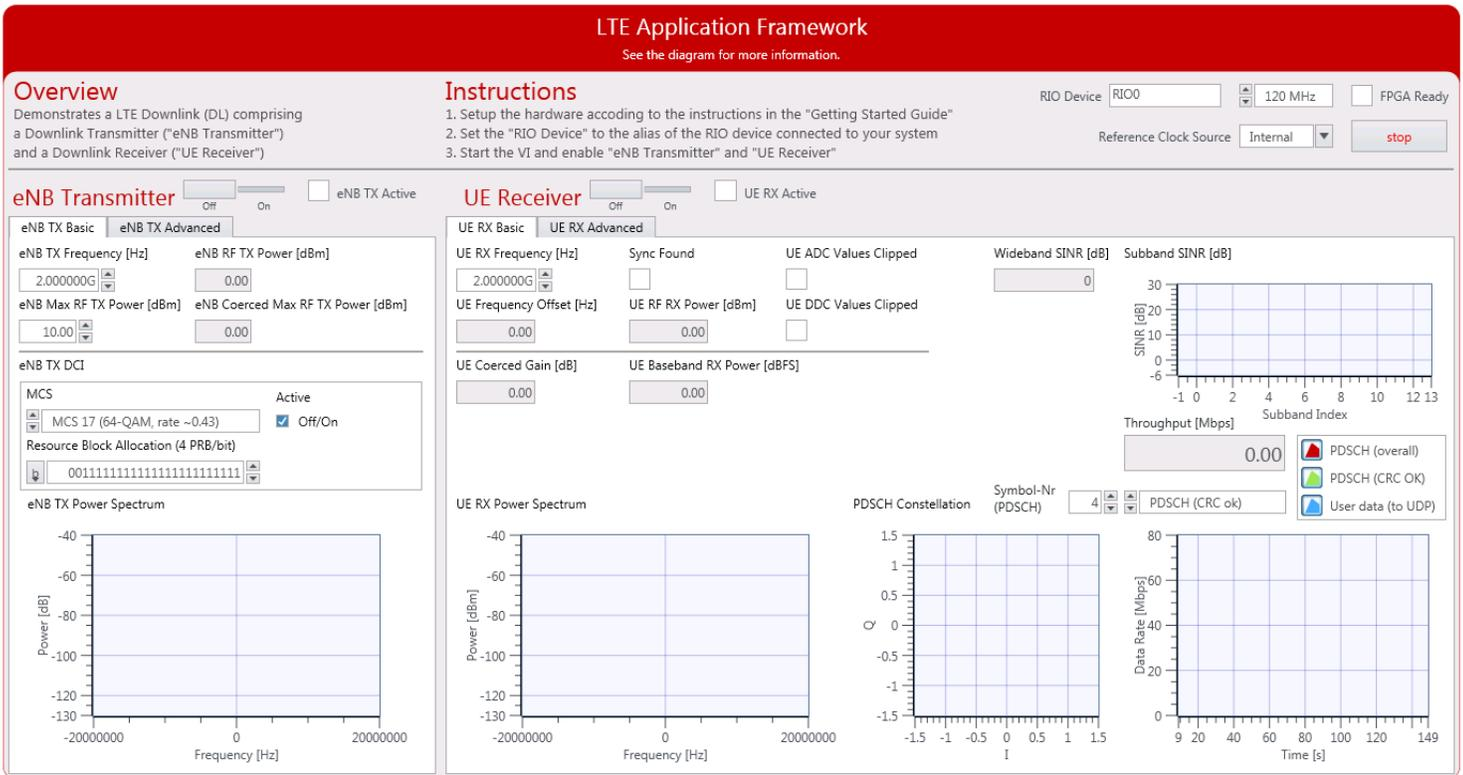

Figure 7 Front panel of LTE Host DL.gvi (downlink only host variant)
3. Within that project, open the LabVIEW top-level host VI in the Downlink only variant, **LTE Host DL.gvi**. The panel of this VI is shown in Figure 7.